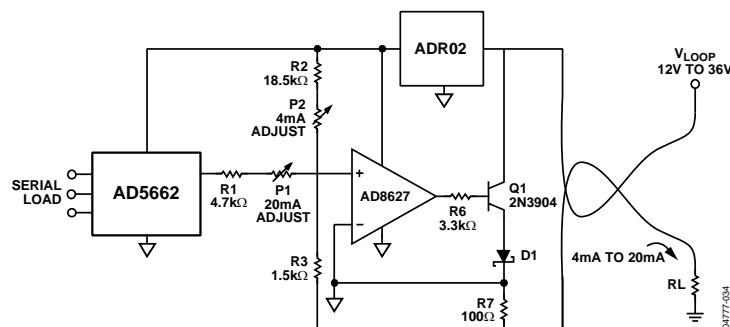

Figure 43. Programmable 4-20 mA Process Controller
A circuit that performs this function is shown in Figure 43. Using the AD5662 as the controller, the circuit provides a programmable output current of 4 mA to 20 mA, proportional to the DAC's digital code. Biasing for the controller is provided by the ADR02 and requires no external trim for two reasons: (1) the ADR02's tight initial output voltage tolerance and (2) the low supply current consumption of both the AD8627 and the AD5662. The entire circuit, including opto-couplers, consumes less than 3 mA from the total budget of 4 mA. The AD8627 regulates the output current to satisfy the current summation at the noninverting node of the AD8627.
For the values shown in Figure 43,